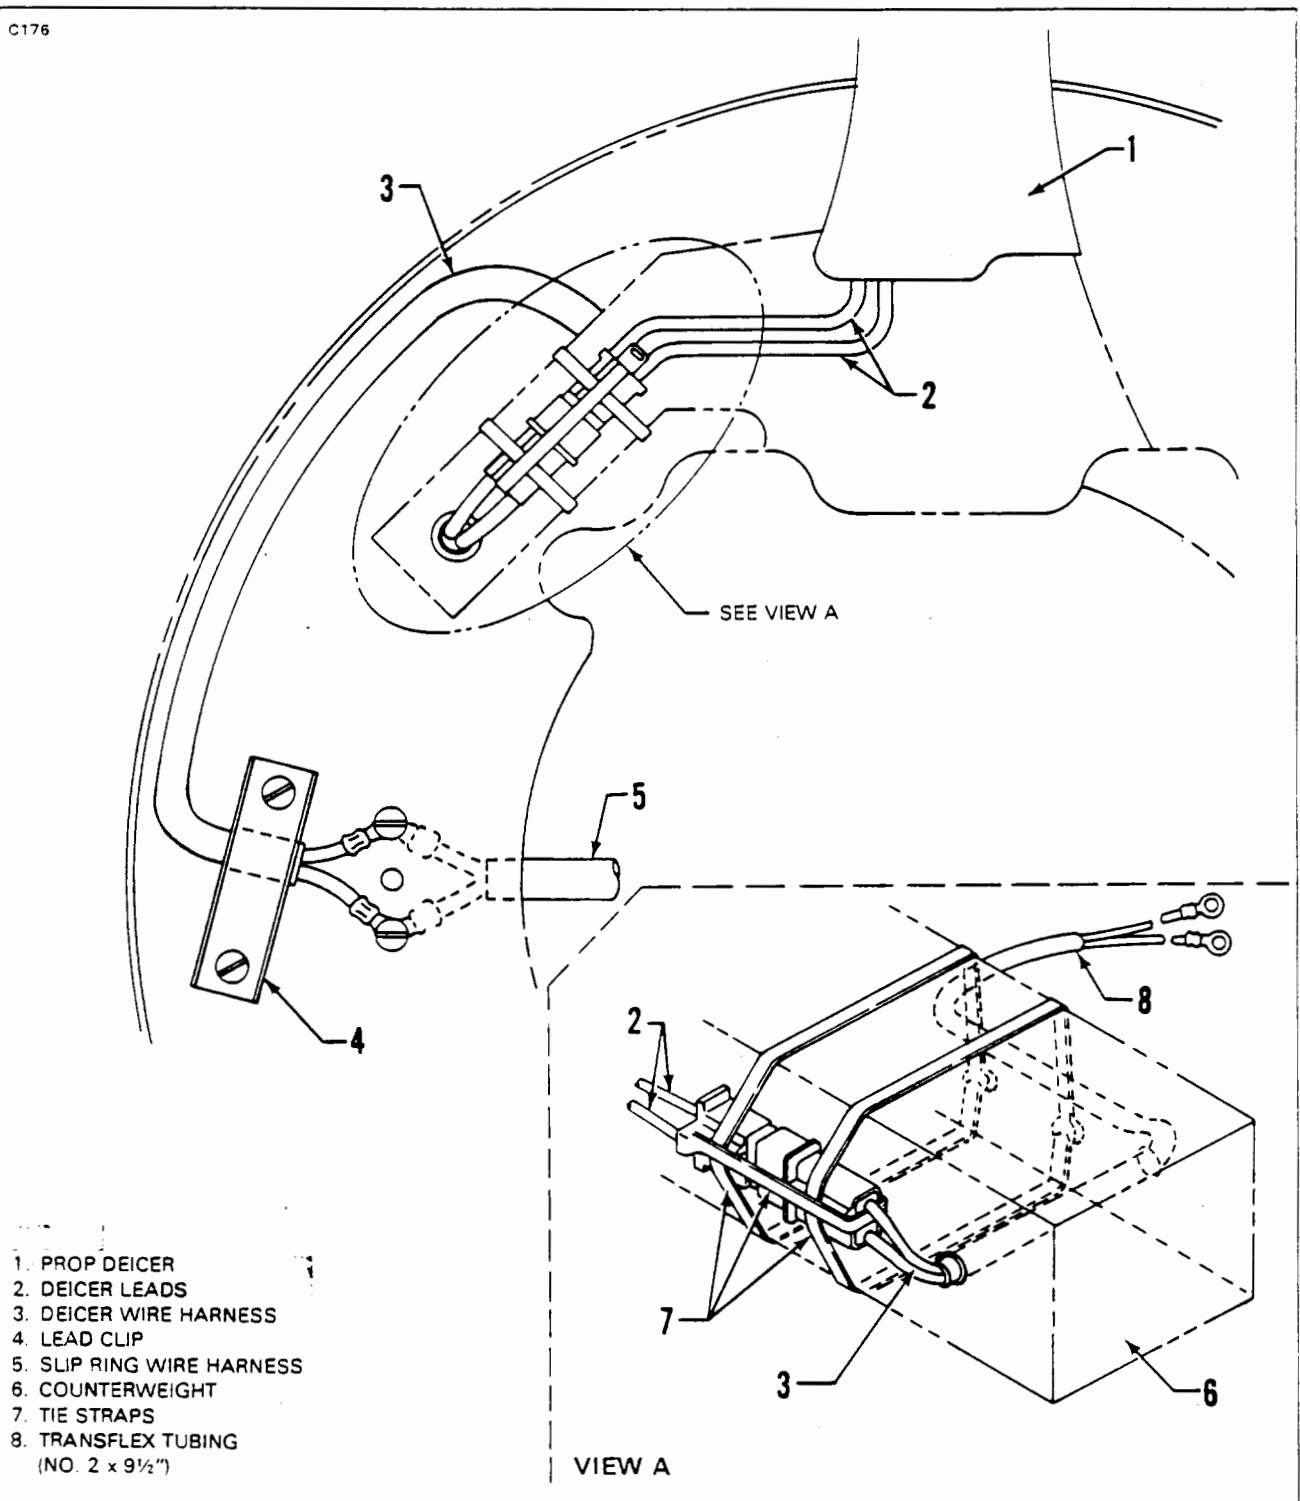

Figure 30-13. Deicer Wiring Harness Installation (Typical)
INSTALLATION OF DEICER WIRING HARNESS. (Refer to Figure 30-13.)
2. Connect the plugs of the prop deicers and the deicer wire harness as shown in Figure 30-13.